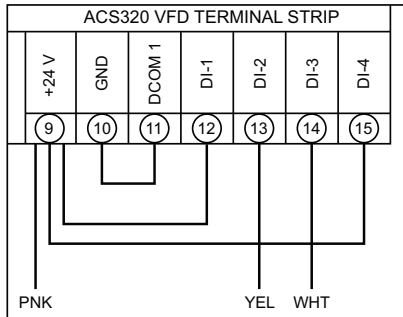

Fig. 28 — ACS320 VFD Wiring
- For ACS320 VFDs the voltage is sourced from the VFD at its terminal 9 (+24 V). 2-Speed Indoor Fan Motor speed inputs are received at terminals 13 (DI-2) for low speed (40 Hz) motor operation and 14 (DI-3) for high speed (60 Hz) motor operation. See Table 11 and Fig. 28 (on page 21).